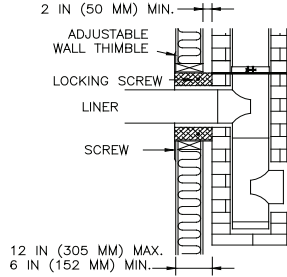

Fig. 6
- Slide the wall radiation shield over the length and fix it to the wall using four (4) screws supplied (fig. 6).